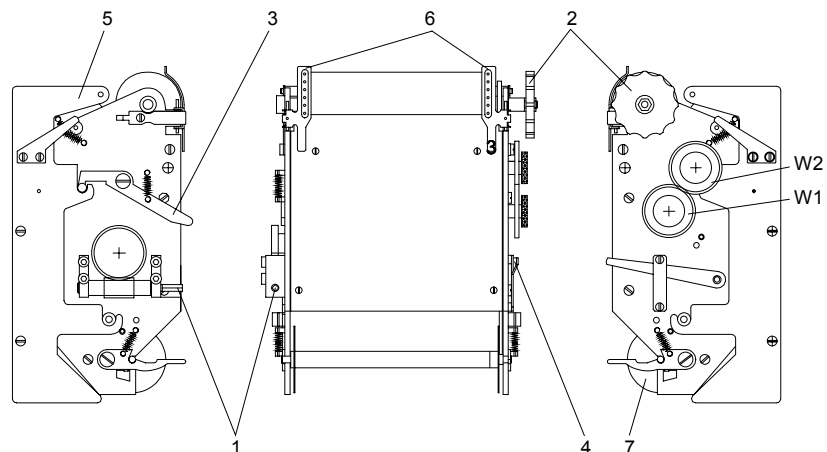

Figure 11
5.2 Start-up of paper drive mechanisms according to figure 11 (with identification N - 8d and N - 32d or fast runner NH - 120 mm/h and NVH - 1200 mm/h)
The paper drive mechanisms have to be wound up (using the supplied crank) on male square 1 on the left side of the recording mechanism by clockwise rotation till obviously sensible stop position is reached. After using lever on the right hand side, the paper tape will start in direction to the green marking (see also figure 11, pos. 4).
7.3.2 Changing the rev time setting at recording mechanisms according to paragraph 5.2 and figure 11
Change gear tables (see also figure 11)